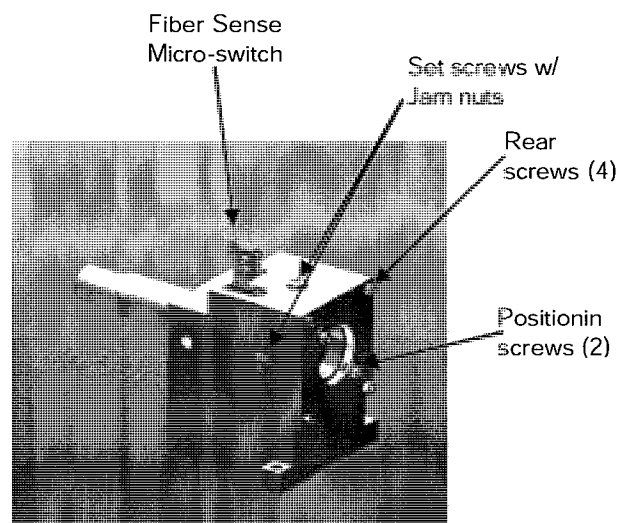

Figure 1: Fiber Focusing Assy.
- 2.8. Go to the "Laser Ctrl" screen (ref Figure 1), press the Cal WL button, pulse the laser once and type in the wavelength on the pop up keypad.
6. Remove the fiber receptacle, see figure 1.
- 10.3. Visually inspect the centering of the lens housing inside the receptacle block. The space (gap) between the outer diameter of the lens housing and the inner diameter of the receptacle block should be even all the way around. Adjust set screws (Figure 1) until the space (gap) is even.